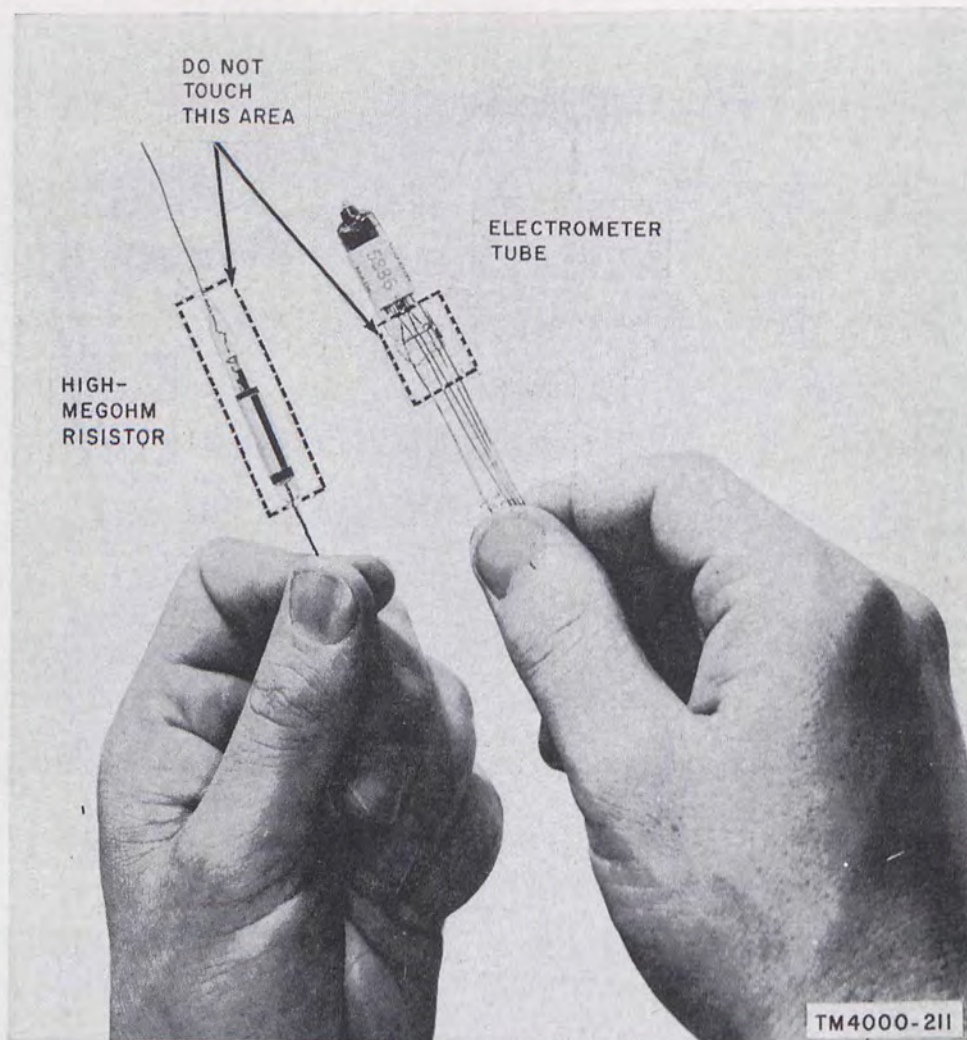

Figure 110. Handling electrometer tubes and high-megohm resistors.
- (2) The electrometer tubes are specially processed to keep the leakage current between the leads to a minimum. Any dirt or salt on the envelope where the leads enter the glass, lowers the resistance between the leads and increases the leakage current. Therefore, never touch the lower part of the tube (fig. 110); hold the tube by the leads. To clean the tube, dip a clean cotton swab into denatured alcohol, then wipe the glass surface. DO NOT dip the swab
e. High-Megohm Resistors. High-megohm resistors are used in the grid circuits of electrometer tubes and may have values up to 200,000,000 megohms (2×10^{14} ohms). The glass body of these resistors should not be touched with bare hands; always use forceps or hold the resistors by the wire ends (fig. 110). If the resistors become dirty, use the procedure in *d*(2) above.